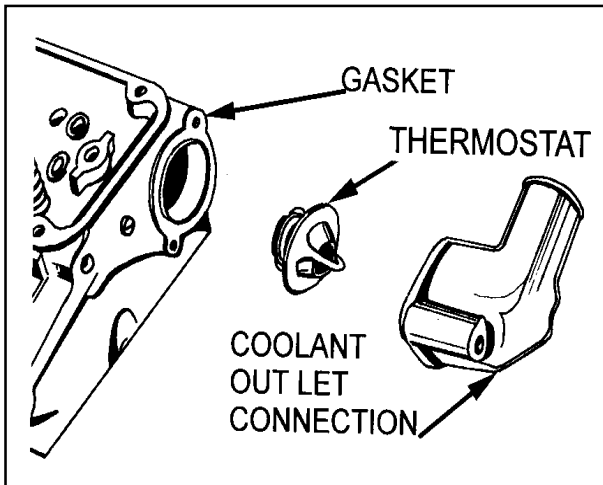

Figure 8
1. Remove the two bolts that attach the water outlet connection to the cylinder head. Remove the connection, thermostat and gasket, as shown in Figure 8.